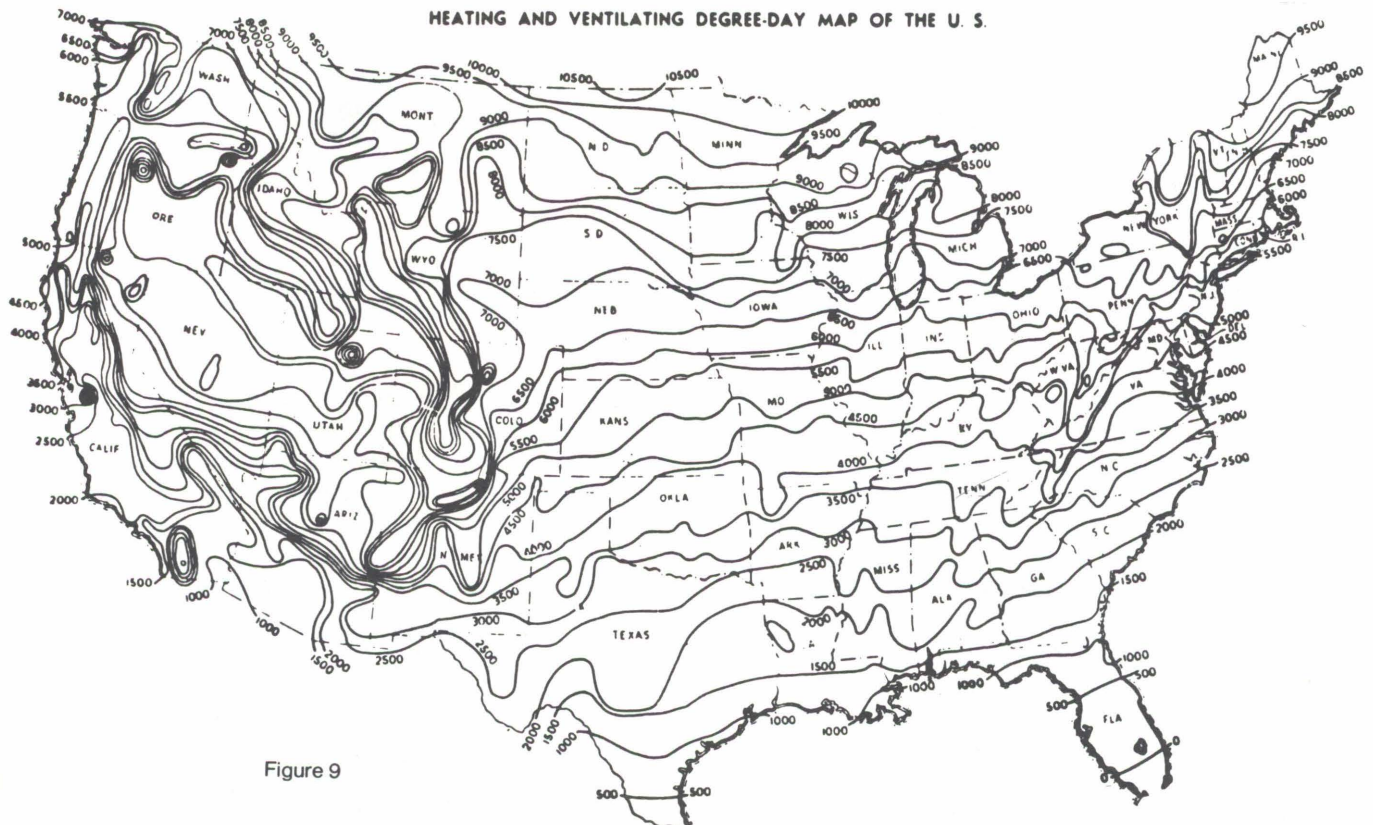

Figure 9
* See zone map of degree days (Figure 9).